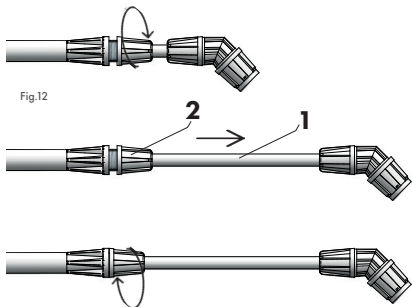

Fig.12
The length of the sprayer lance can be adjusted. To do so, loosen the bell-shaped nut (fig. 12/pos. 2), slide out the telescopic section of the lance (fig. 12/pos. 1) to the required length (max. 0.54 m) and tighten the bell-shaped nut (fig. 12/pos. 2).